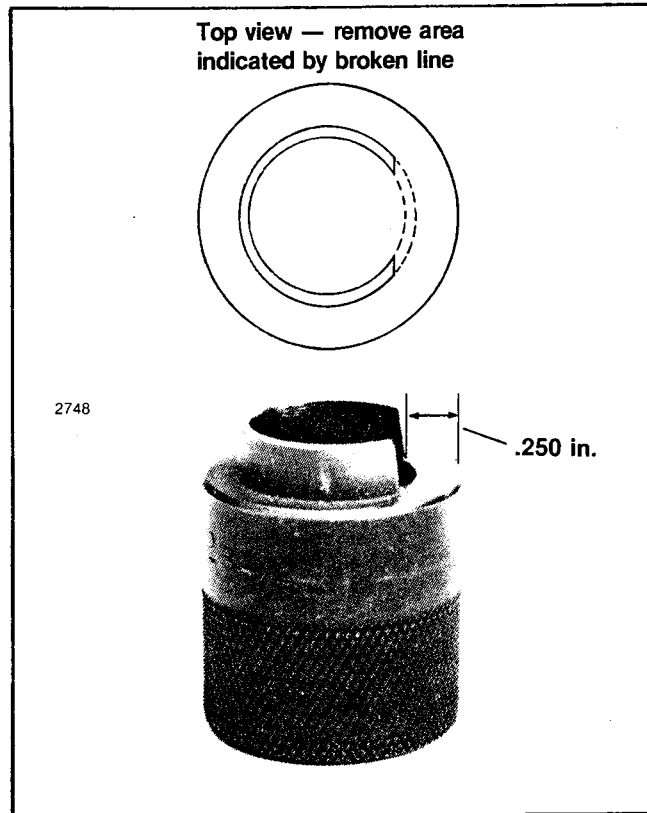

Figure 5. Modification of Tool Sleeve
2. See Figure 5. Using a high speed die grinder, remove .250 in. from the sleeve as shown.